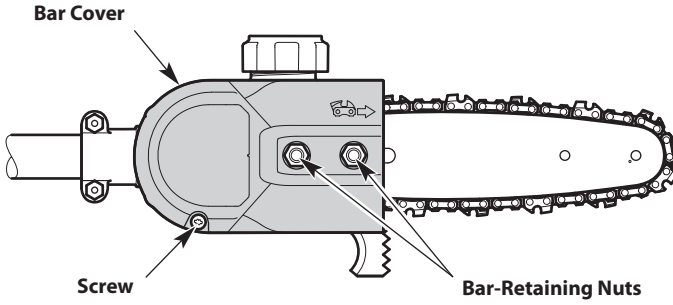

Fig. 15
1. Remove the screw and two (2) bar-retaining nuts (1/2 inch) (Fig. 15).
2. Remove the bar cover (Fig. 15).
1. Loosen the bar-retaining nuts, but do not remove them (Fig. 15).